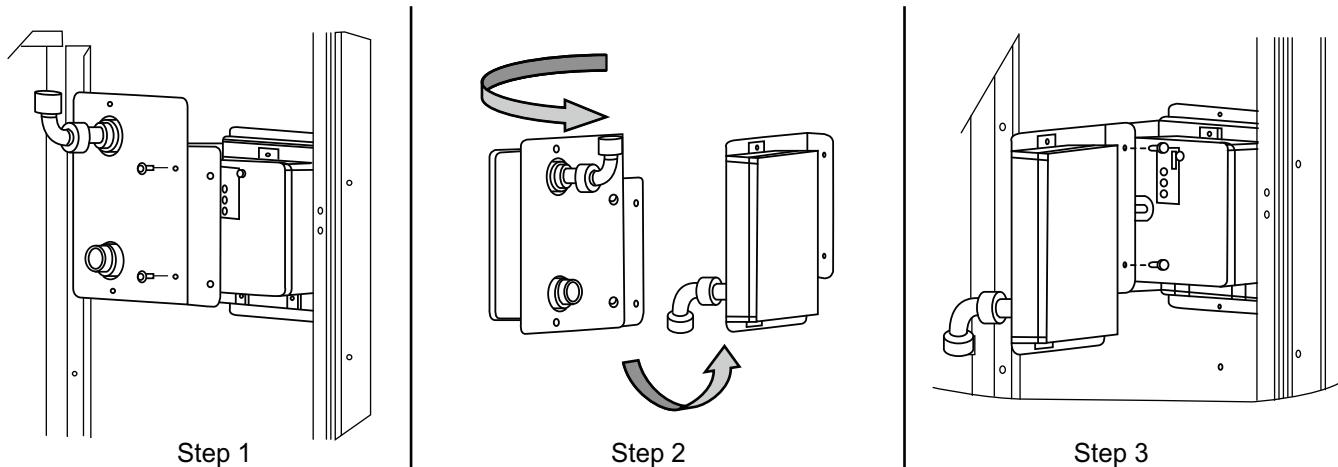

Fig. 42 – Completing Installation of Return-Air Smoke Sensor
1. Unscrew the two screws holding the return air smoke detector assembly. See Fig. 42, Step 1. Save the screws.
2. Turn the assembly 90 degrees and then rotate end to end. Make sure that the elbow fitting is pointing down. See Fig. 42, Step 2.
3. Screw the sensor and detector plate into its operating position using screws from Step 1. See Fig. 42, Step 3.